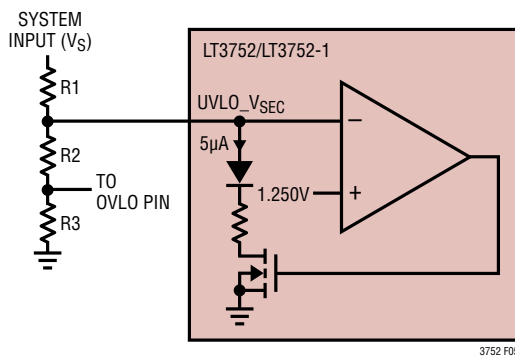

Figure 5. Programming Undervoltage Lockout (UVLO)
The LT3752/LT3752-1 have an accurate 1.25V shutdown threshold at the UVLO\_VSEC pin. This threshold can be used in conjunction with an external resistor divider to define the falling undervoltage lockout threshold (UVLO(-)) for the converter's system input voltage (VS) (Figure 5). A pin hysteresis current of 5μA allows programming of the UVLO(+) threshold.